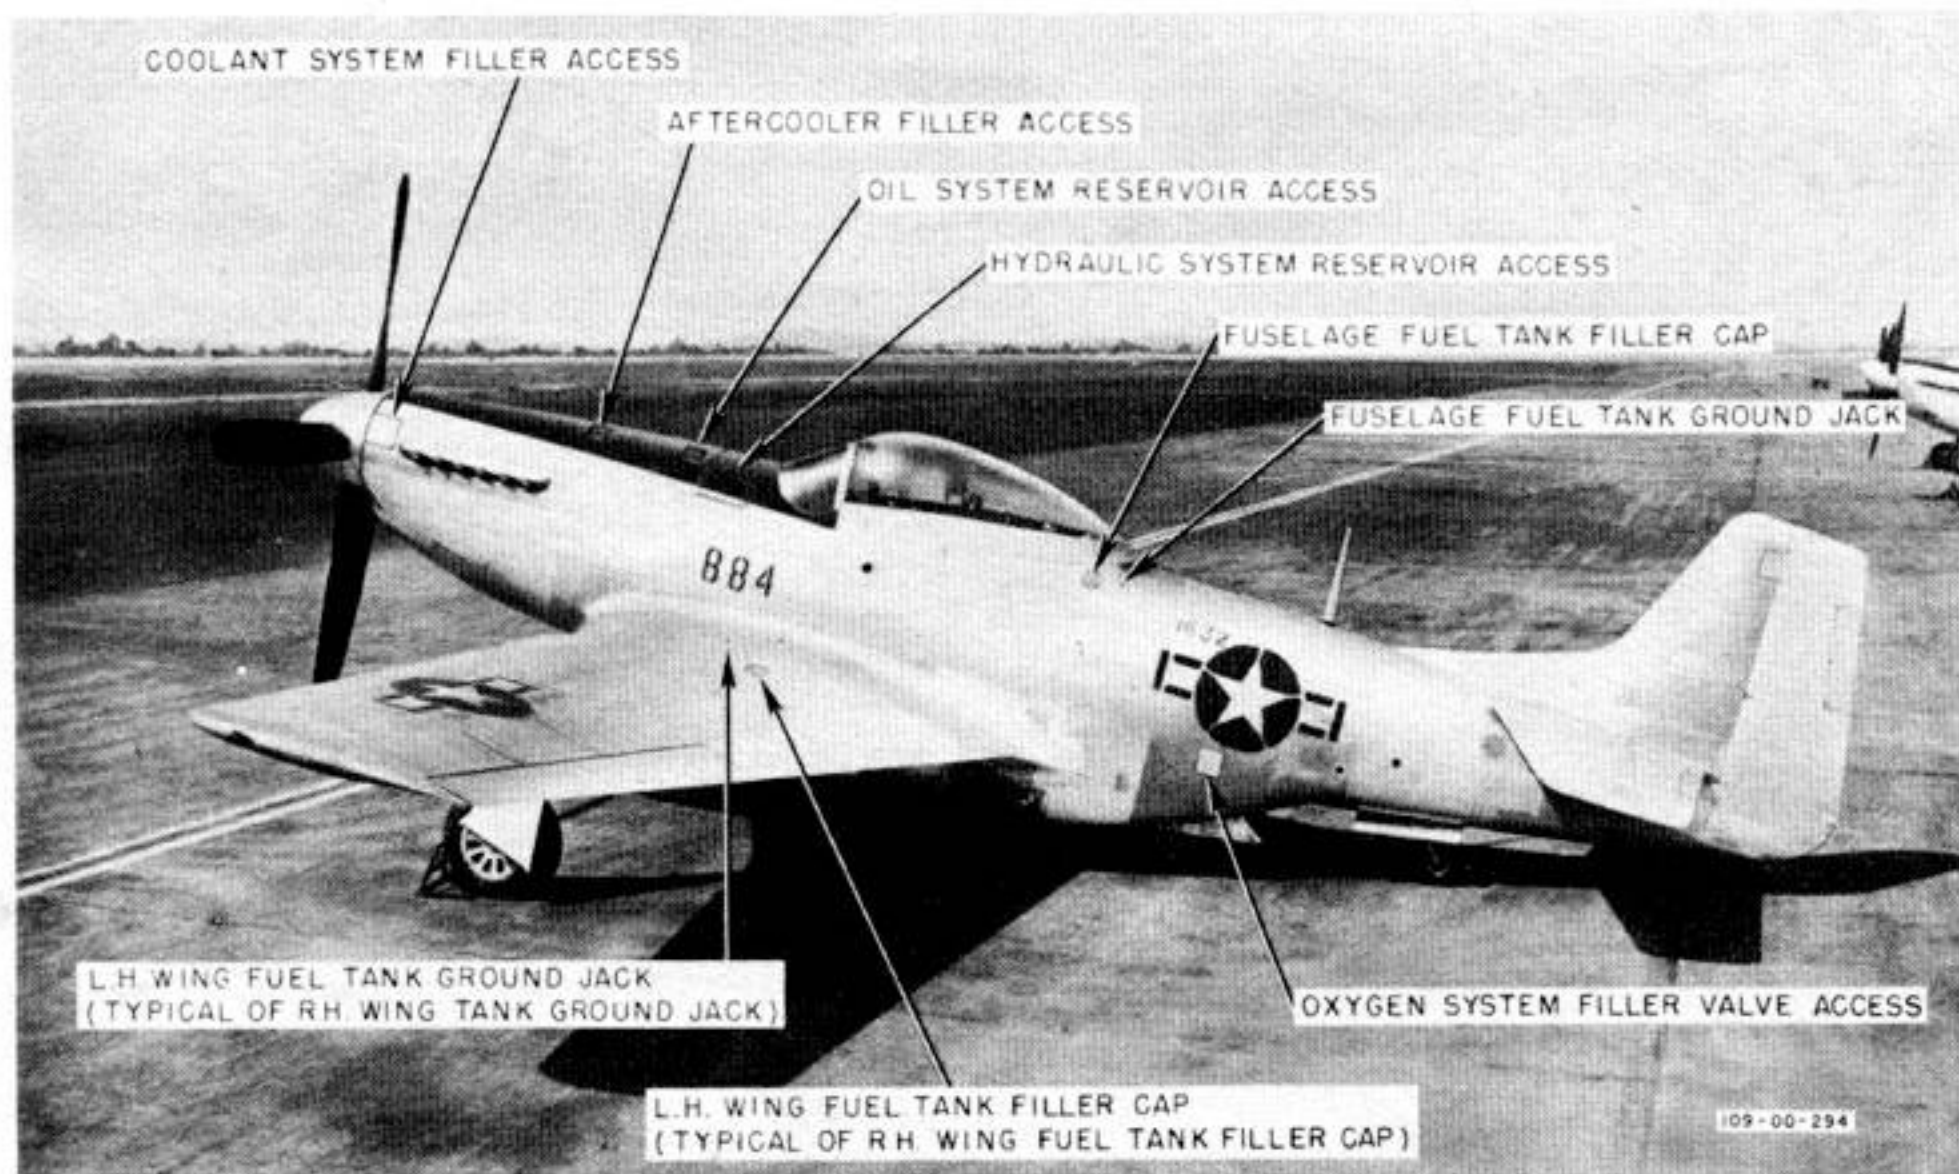

Figure 66—Servicing Provisions
(c) FILLING MAIN FUEL TANKS.—The main tanks are filled individually through filler necks on the upper surface of the respective wing panels. (See figure 66.) The ground jacks are located just forward and inboard of each filler neck. When filling the tanks, observe the following precautions:
1. Ground the airplane at the ground jacks just forward and inboard of each main tank filler cap. (See figure 66.)
(e) FILLING FUSELAGE FUEL TANK.—Before filling the fuselage tank, ground the airplane at the ground jack located just below the fuselage tank filler neck, and then drain a small amount of fuel from the drain cock, which is accessible through a dzus-fastened door on the left underside of the fuselage; this will eliminate accumulated water and foreign matter. Fill the tank through the filler neck on the left side of the fuselage just aft of the canopy. (See figure 66.)
(f) DRAINING FUSELAGE FUEL TANK.—Ground the airplane at the ground jack just aft of the fuselage tank filler cap (figure 66), and then open the drain cock which is accessible through a dzus-fastened door on the left
(c) FILLING OIL SYSTEM.—The oil filler neck is accessible through a small dzus-fastened door on the left side of the upper engine cowling. (See figure 66.) If foam is present when replenishing the tank, be careful to get a proper reading of the oil level.
(c) FILLING COOLING SYSTEMS.—The header tank filler cap is accessible through the dzus-fastened door at the forward end of the upper left engine cowling just aft of the propeller spinner. (See figure 66.) The aftercooler expansion tank is accessible through the door on the top left engine cowling just forward of the oil tank filler cap access door. Because the pressure-type cooling systems require closed circuits, air traps are likely to occur when filling the system. Therefore, sealed vent lines are provided to bleed off the air when the system is being filled. The vents for both systems are located just inside the left wing rear fillet.
2. Remove the header tank filler cap to allow air to enter the system as the coolant drains. The filler cap is accessible through the dzus-fastened door at the forward end of the upper left engine cowling just aft of the propeller spinner. (See figure 66.)
(b) FILLING OXYGEN SYSTEM.—A suitable oxygen cylinder recharger designed in accordance with AAF Dwg. 41G5917 and Specification No. 2198A should be used in filling the oxygen cylinders. The oxygen filler valve is accessible through the access door on the left side of the fuselage, just below the insignia. (See figure 66.)